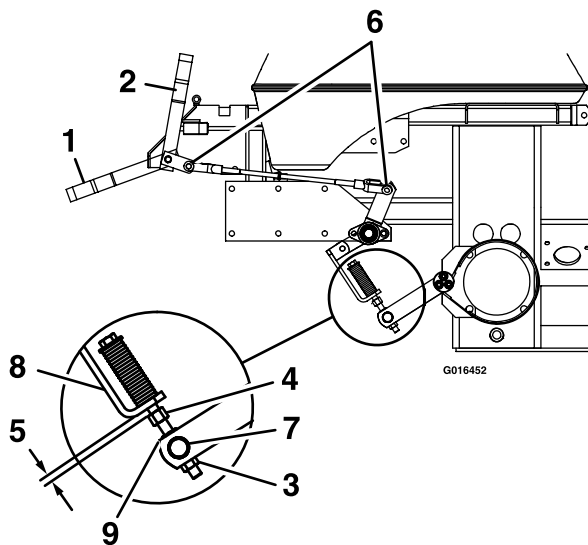

Figure 22
8. Loosen the jam nut (item 9 in Figure 22) just above the trunnion roller 2-3 turns.
9. Tighten the bottom nyloc nut (item 3 in Figure 22) until the brake spring is completely compressed, then loosen one-half turn.